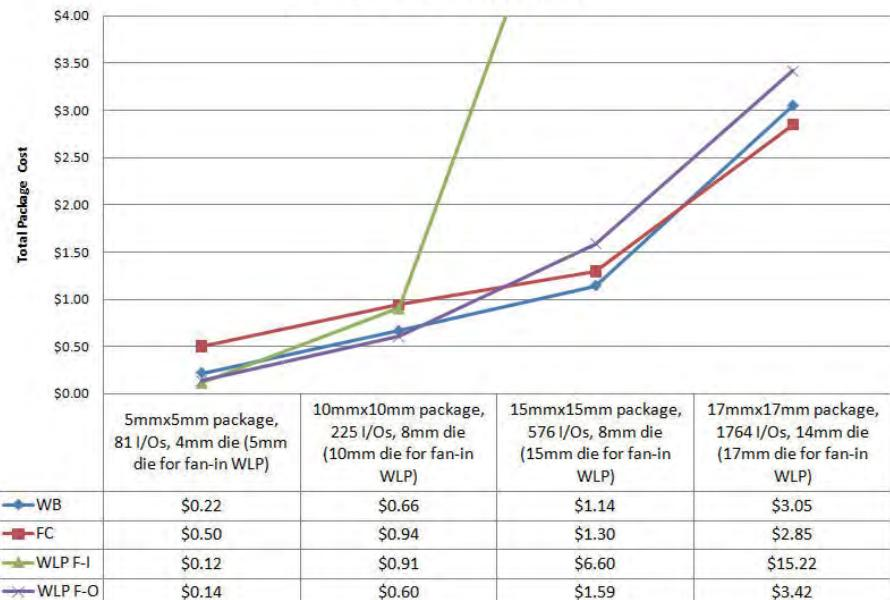

Figure 4. Package cost comparison.
**Figure 4** shows the cost model results for wire bond, flip chip, FI WLP, and FO WLP for four different designs. Activity-based cost models were used for all four technologies and the manufacturing location is assumed to be Taiwan. A die size smaller than the package was used for FO WLP, wire bond , and flip chip packaging and a die size identical to the package size was used for FI WLP.